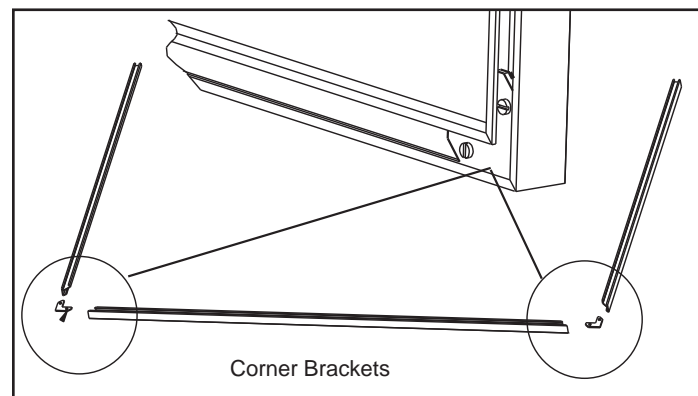

Figure 41.3
4. Using a standard flat screw driver tighten the corner brackets. **Figure 41.3**.